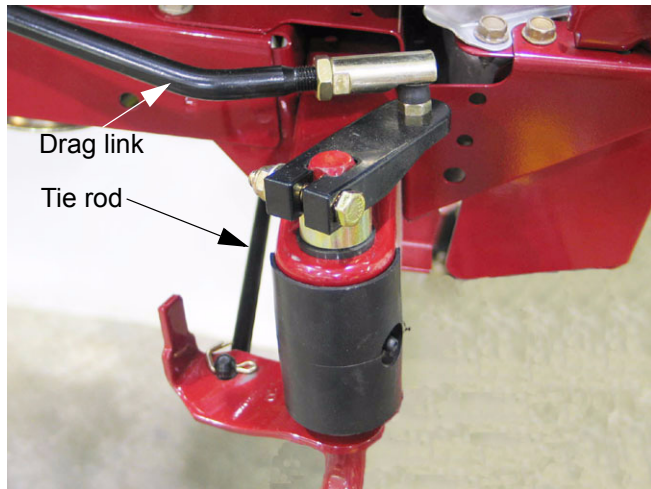

Figure 14.1
14.1. The toe angle is not adjustable. The front wheels are kept pointed in the same direction (except for the Ackerman effect) by a tie-rod with fixed ends. There is an adjustable end on the drag link that connects the steering gear to the steering arm on the right front axle. See Figure 14.1.